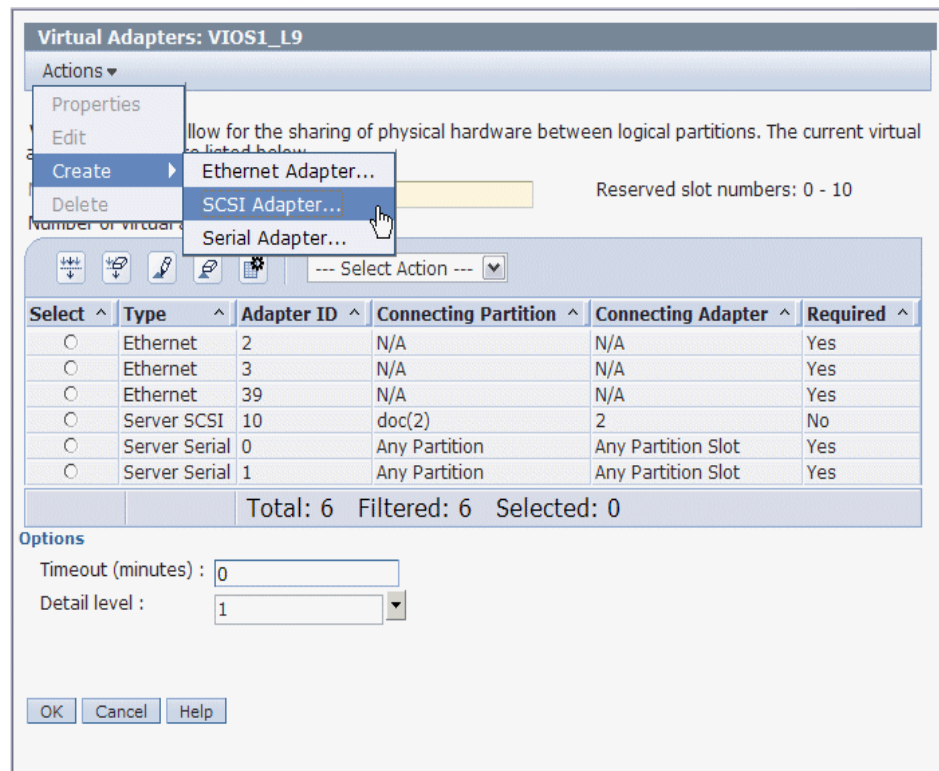

Figure 9-3 Create SCSI Adapter
2. Click **Actions** → **Create** → **SCSI Adapter**, as shown in Figure 9-3.